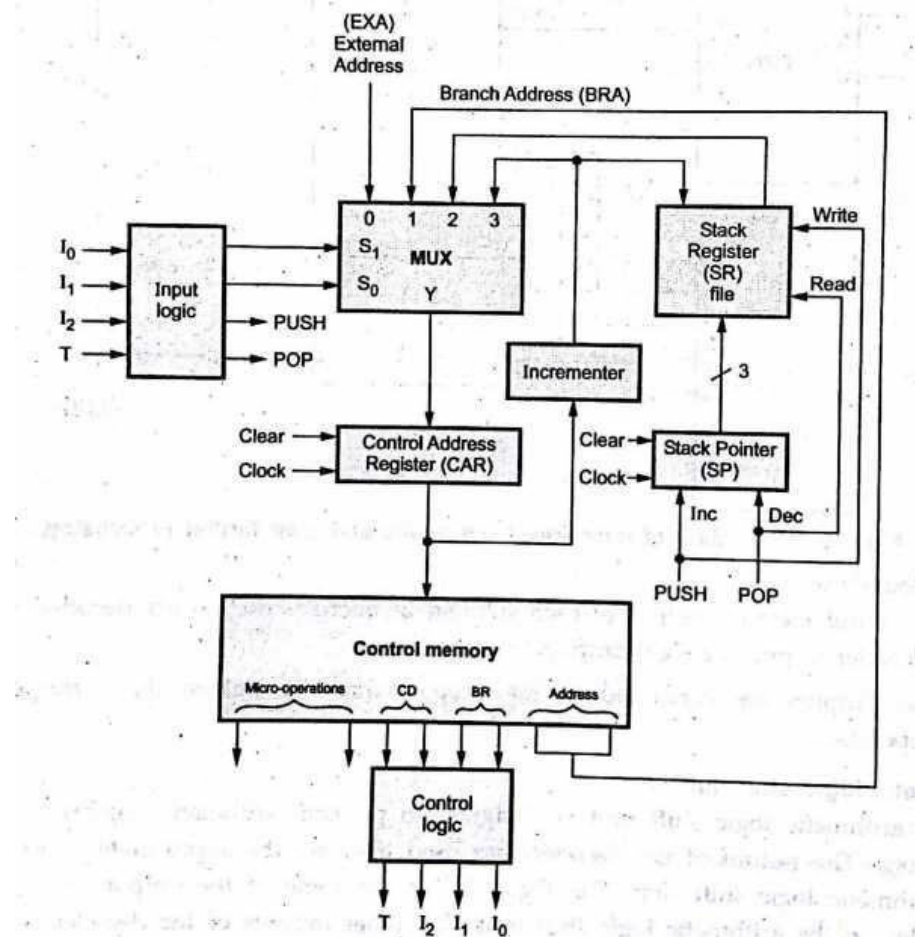

Figure 5: Typical micro program sequencer organization
- The Figure 5 shows the block diagram of commercial micro program sequencer.